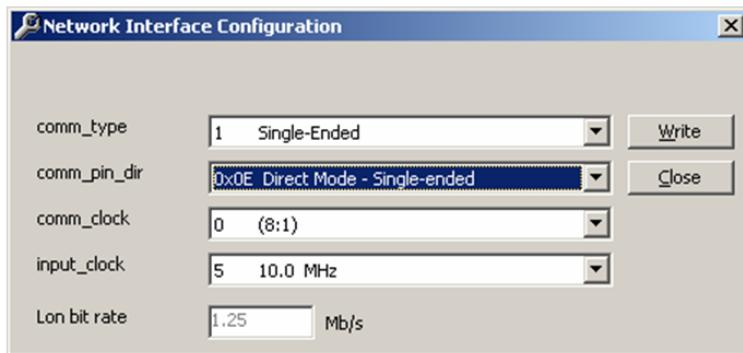

Figure 12: Network Interface Configuration dialog
6. Define the settings shown in Figure 12.